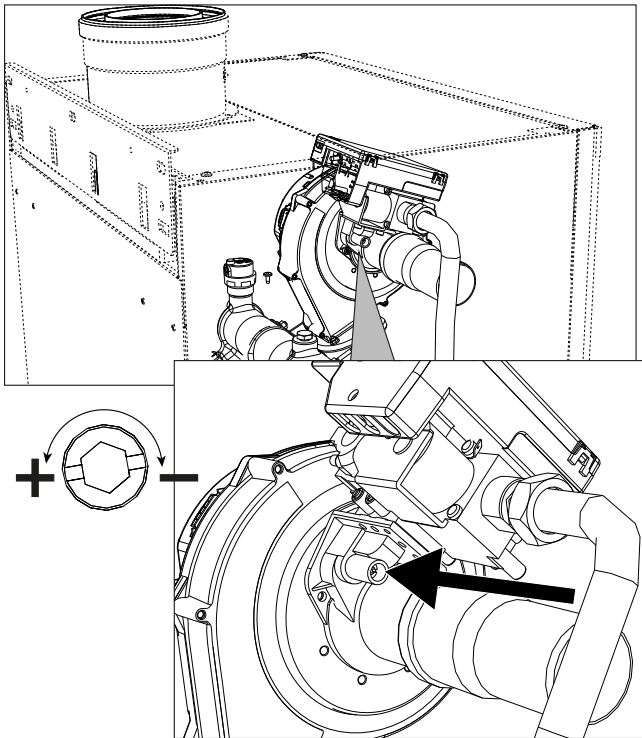
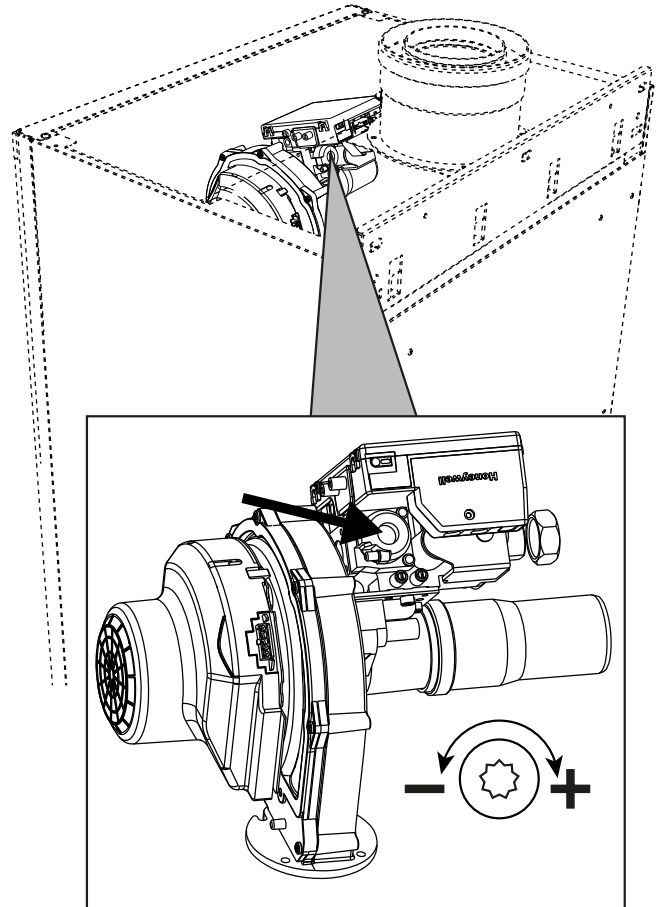
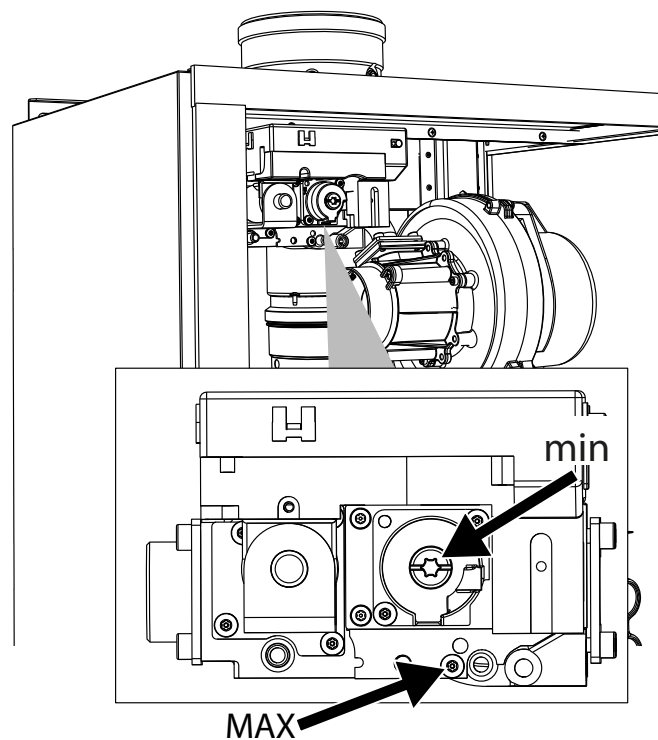

fig. 77- Maximum adjustment, models W 60 and W 80
fig. 78- Minimum adjustment, models W 60 and W 80
fig. 79- Maximum and minimum adjustment, models W 99, W 120 and W 150
- If the values are different from those indicated, with the maximum adjustment screw adjust the CO₂ to the CO₂ values indicated. See **fig. 77** for models **W 60** and **W 80** or **fig. 79** for models **W 99**, **W 120** and **W 150**.
- If the CO₂ values are different from those indicated, carefully adjust the minimum “OFFSET” screw, checking that the CO₂ is correct. See **fig. 78** for models **W 60** and **W 80** or **fig. 79** for models **W 99**, **W 120** and **W 150**.